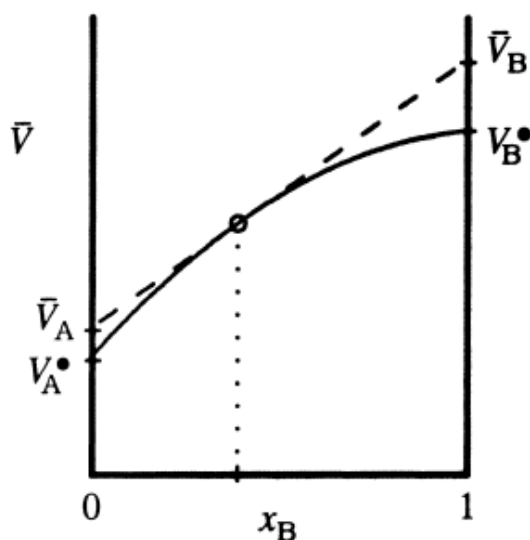

Figure 1
1. Read the description and instructions carefully in the technique part and construct a boiling point apparatus from the flask, condenser, thermometer, tubing, and heating mantle as shown in Fig.1.
5. Calculate number of moles (n) and moles fraction (X) of each solution (While you add solutions by volume, and you know the densities of pure liquid so you can determine the additional masses. From those masses you can calculate mole and mole fraction for each component)
6. Using the Clausius-Clapeyron equation (2) to calculate the vapor pressure P° above each pure liquid for each measured T.